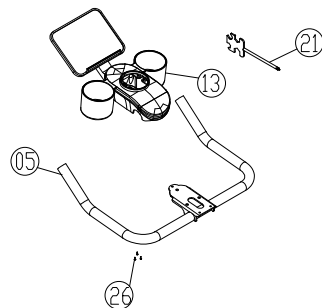

Figure 4
4. Fit the upper and lower cover plates (Part 13) to the Display Stand Assembly (Part 05). Secure the cover plates to the Display Stand Assembly using three M4×15 cross-head self-tapping screws (Part 26), fitted from bottom to top, then tighten the screws with the Phillips head wrench (Part 23), in accordance with Figure 4.